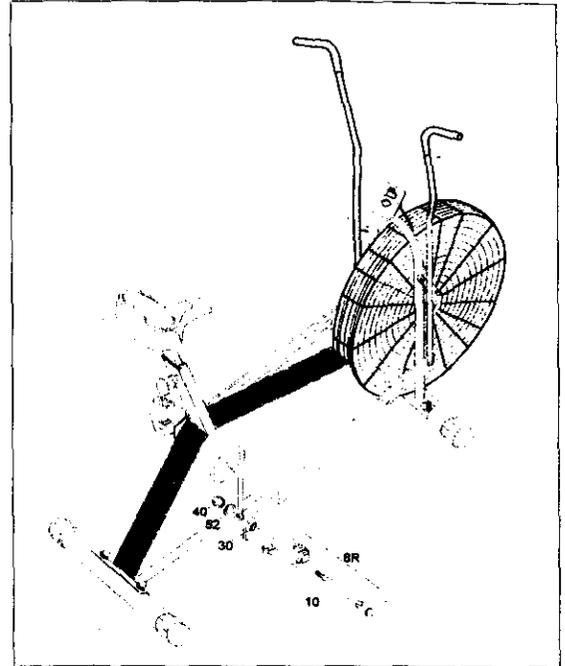

FIGURE 6
READ ALL OF STEP 6 "a" through "d" BEFORE ATTACHING THE PEDALS. REFER TO FIGURE 6. THE SPACERS (29 and 30) already mounted on LINKAGE.
STEP 6a	Insert the PEDAL AXLE (10) through the PEDALS (8R and 8L) and the shoulder side of the LINKAGE (4R and 4L) .
STEP 6b	Tighten both PEDALS (8R and 8L) by turning clockwise. Screw the PEDAL AXLE into the CRANK (20) .
STEP 6c	Thread the NUT (40) and SPRING WASHER (52) onto the PEDAL AXLE (10) .
STEP 6d	TIGHTEN PEDAL AXLES AND NUTS (41) UNTIL NUTS (41) ARE TIGHT AGAINST THE CRANK. THE NUTS MUST BE TIGHTENED SECURELY.
STEP 6e	Insert Cap. See Figure 6